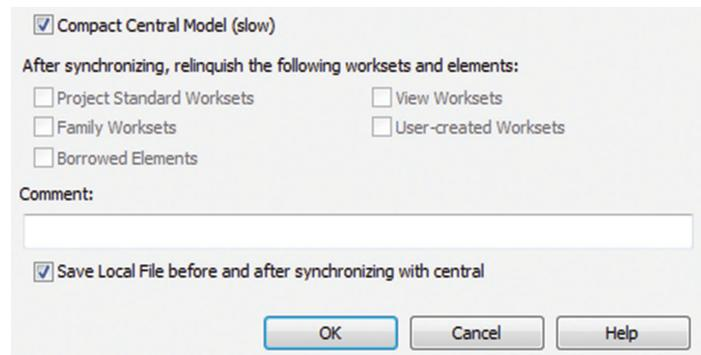

Figure 2
4. Once the “Save” is complete (see Figure 2)